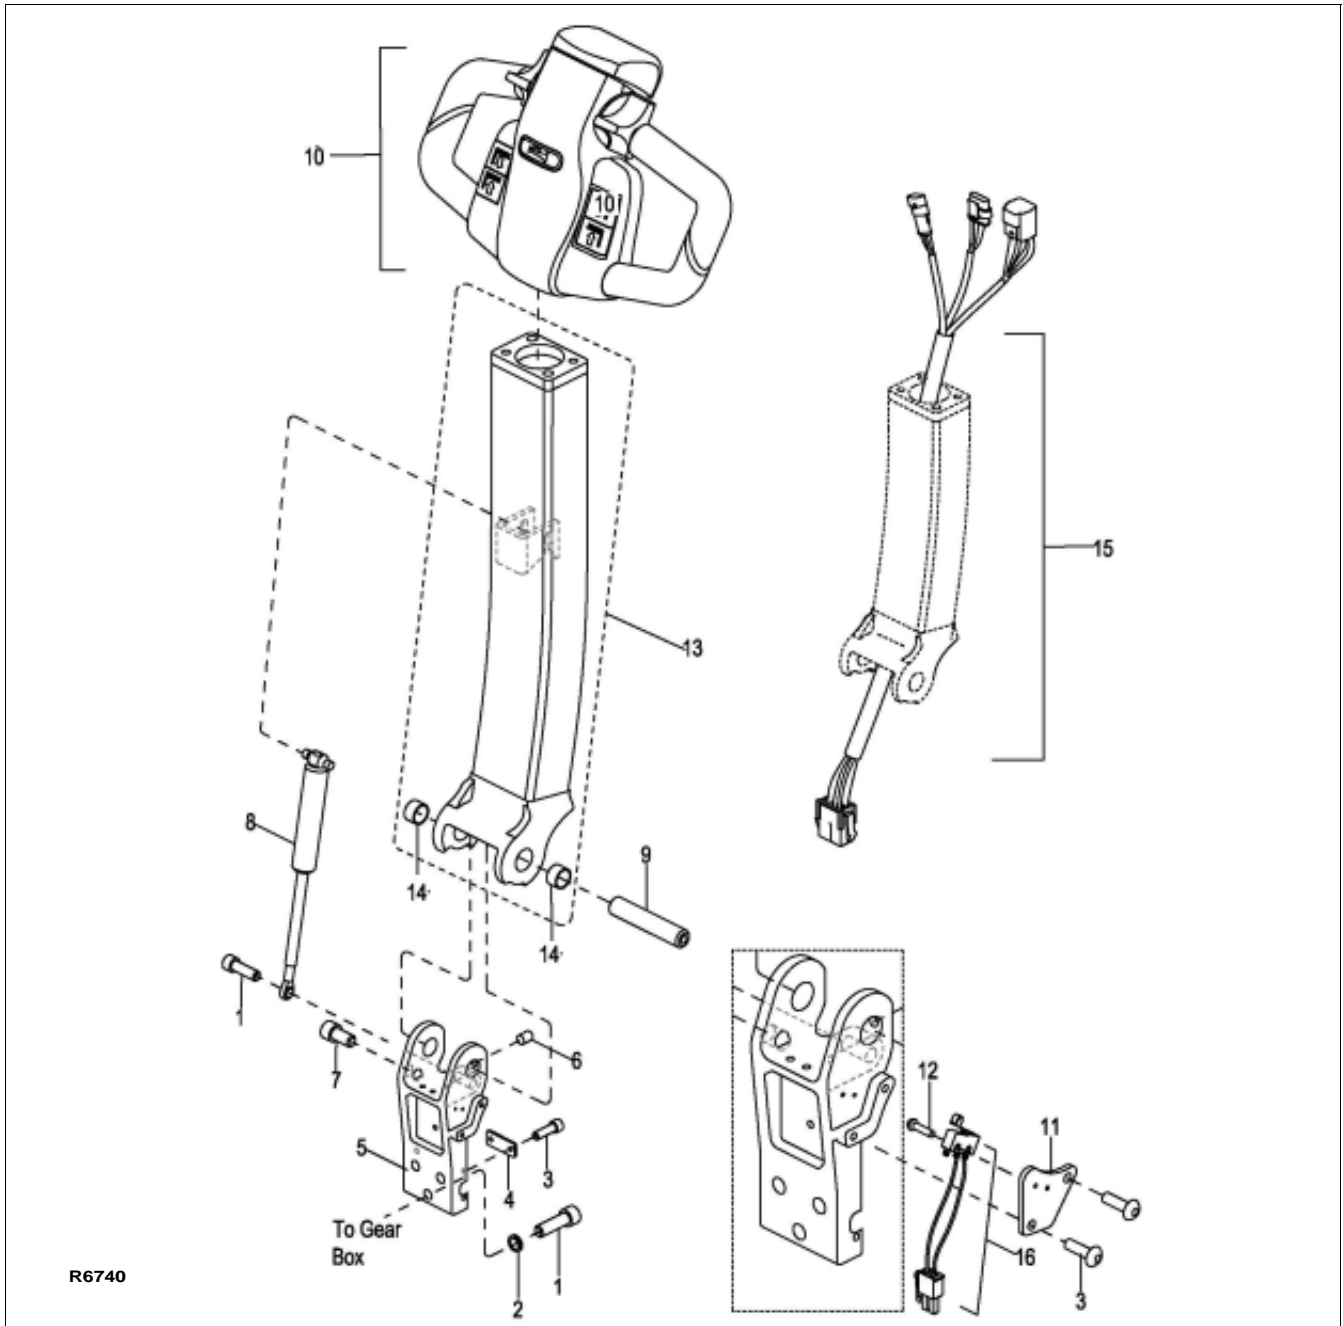
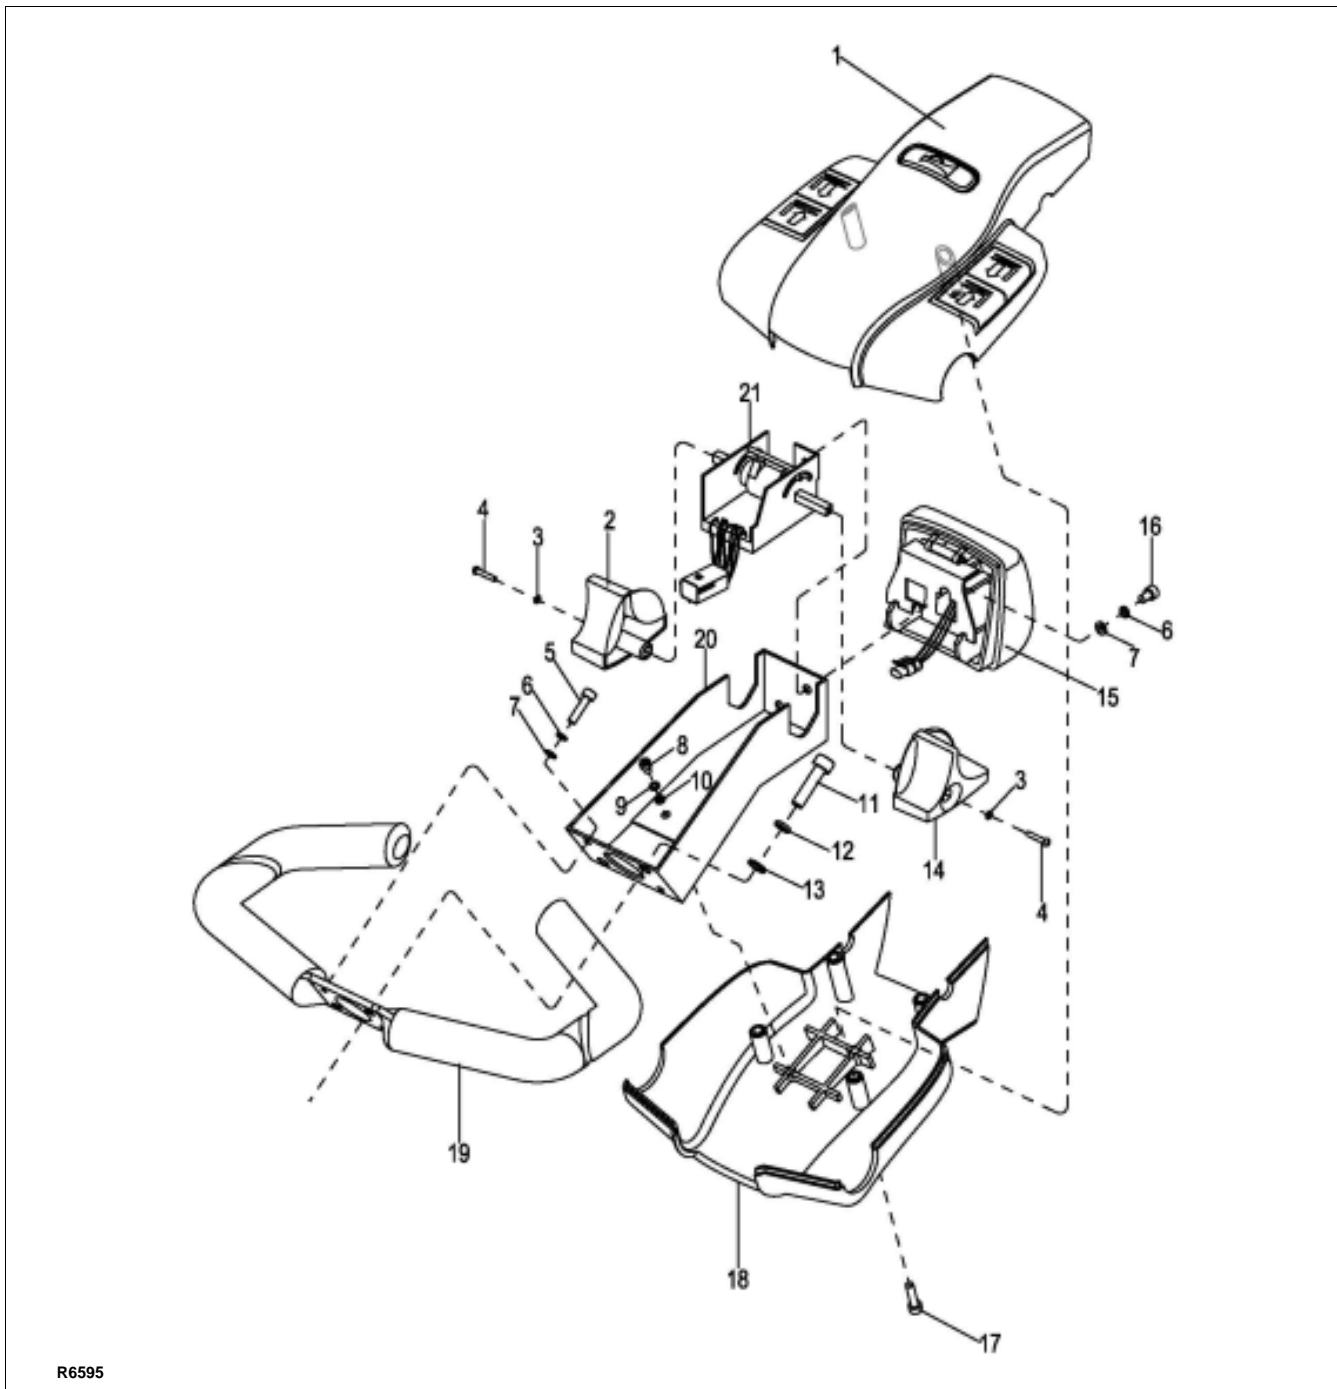

Figure 5-1 Steering Arm
Figure 5-2 Control Head
2. Remove the cap assembly (1, Figure 5-2) as described in paragraph 5-1.3.
3. Disconnect harness (15, Figure 5-1) from potentiometer (21, Figure 5-2).
4. Disconnect harness (15, Figure 5-1) from emergency reverse switch (15, Figure 5-2).
5. Remove two screws (5), two washers (7) and two flat washers (6).
1. Secure control head and handle (19, Figure 5-2) with two screws (11), two washers (12) and two flat washers (13).
2. Install two screws (5), two washers (6) and two flat washers (7).
3. Reconnect harness (15, Figure 5-1) to emergency reverse switch (15, Figure 5-2).
4. Reconnect harness (15, Figure 5-1) to potentiometer (21, Figure 5-2).
2. Remove four screws (17, Figure 5-2) and lift up cap assembly (1).
1. Hold cap assembly (1, Figure 5-2) in place and connect harness (10, Figure 12-17) to harness (9).
2. Disconnect harness (15, Figure 5-1) from potentiometer (21, Figure 5-2).
3. Remove screw (4), washer (3) and control knob (2) from potentiometer (21).
4. Remove screw (4), washer (3) and control knob (14) from other side of potentiometer (21).
5. Remove two screws (16), lock washers (6) and flat washers (7) and remove potentiometer (21) from bracket (20).
6. Position new potentiometer (21) in bracket (20) and secure with two screws (16), lock washers (6) and flat washers (7).
7. Install control knob (2) on potentiometer (21) and secure with screw (4), and washer (3).
8. Install control knob (14) on the other side of potentiometer (21) and secure with screw (4), and washer (3).
9. Reconnect harness (15, Figure 5-1) from potentiometer (21, Figure 5-2).
2. Disconnect harness (15, Figure 5-1) from emergency disconnect switch (15, Figure 5-2).
3. Remove two screws (16), lock washers (6) and flat washers (7) and remove switch assembly (15) from bracket (20).
5. Remove two pins (3) and switch assembly (6) from bracket (4).
6. Position the new switch assembly (6) in bracket (4) and secure with two pins (3).
7. Position bracket (4) and springs (2) in button (1) and install pin (5).
8. Position switch assembly (15, Figure 5-2) on bracket (20) and secure with two screws (16), lock washers (6) and flat washers (7).
9. Reconnect harness (15, Figure 5-1) to emergency reverse switch (15, Figure 5-2).
The steering arm gas return spring (6, Figure 5-2) is replaced while the steering arm (5) is in the upright position.
1. Secure the steering arm (13, Figure 5-1) in the upright position.
2. Remove screw (1) and free the gas return spring (8) from bracket (5).
3. Pull downward on the gas return spring (8) to free it from its seat inside steering arm (13).
4. Position the new gas return spring (8) inside the steering arm being sure it fully engages its seat.